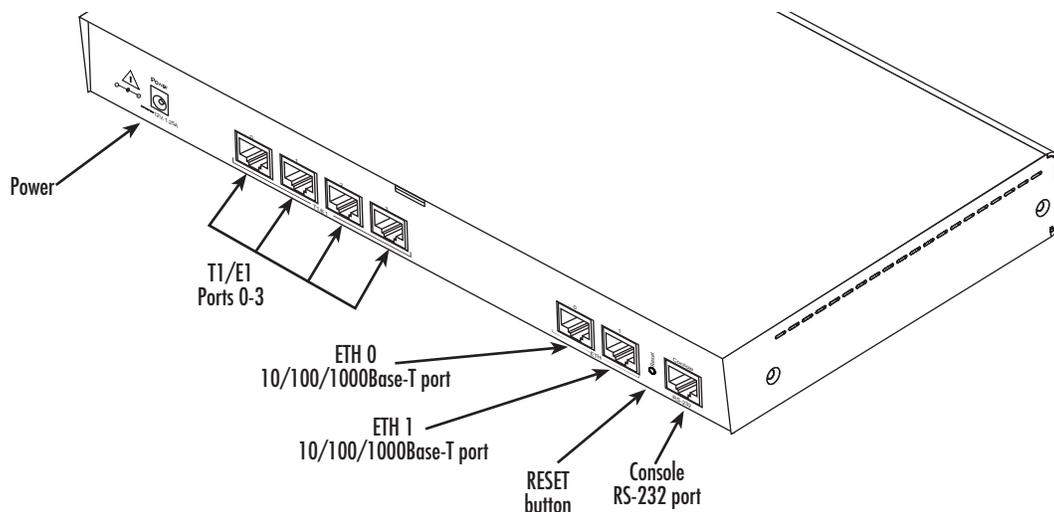

Figure 6. Power connector location on rear panel
1. Insert the barrel type connector end of the AC power cord into the external power supply connector (see figure 6).
5. Verify that the green *Power* LED is lit (see figure 6).